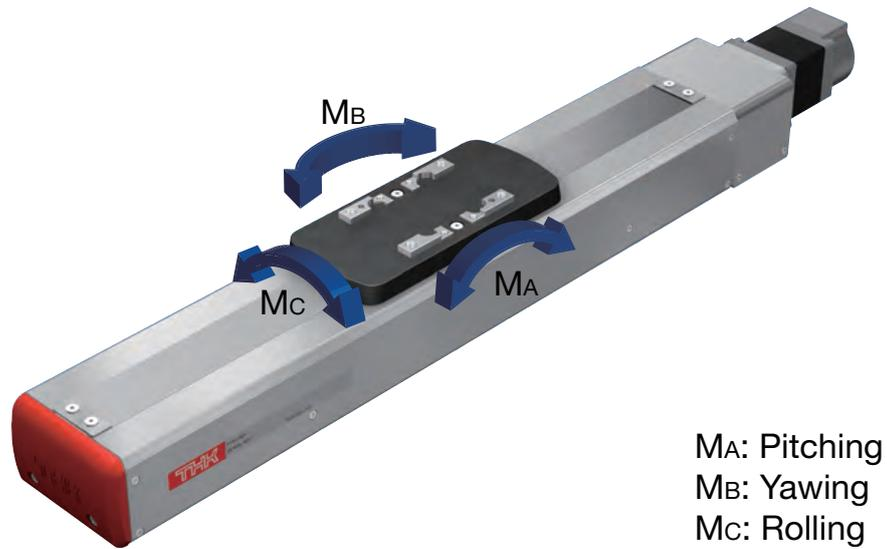

Fig. 6 Load moment direction
- Static permissible moment is shown in Table 10. For the direction of the moment, see Fig. 6. (The static moment is the value when a load is applied only to one direction.)